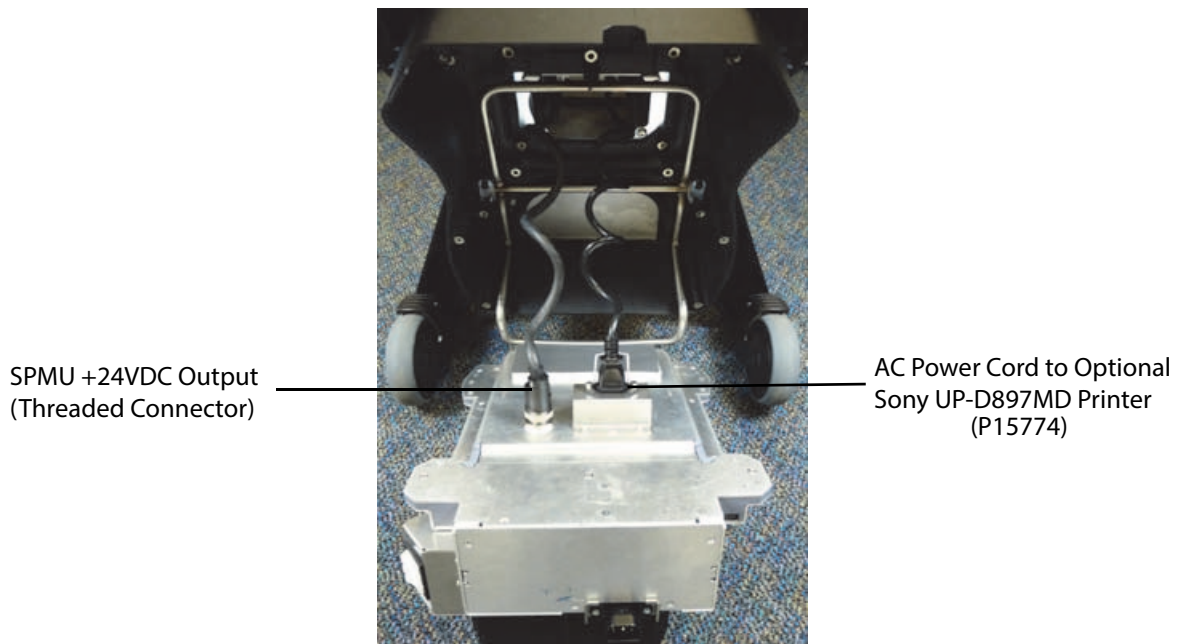

Figure 6.12 SPMU Power Connectors
- 16 Un-thread the retaining ring of the DC power cable plug and remove from the SPMU DC output socket. The SPMU can now be removed from the stand. Refer to Figure 6.12 on page 43